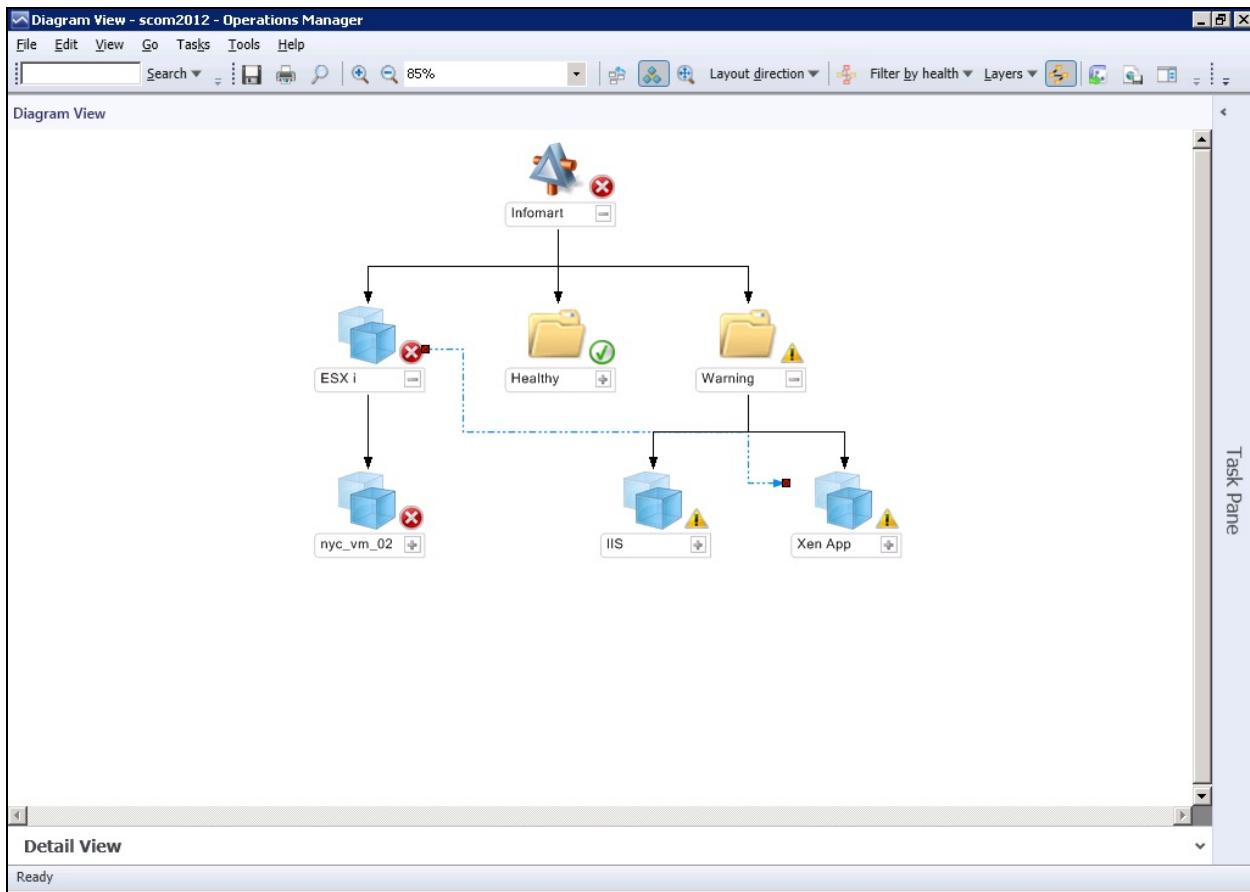

Figure 4.42: End-to-end correlation using SCOM
17. Now, let us drill down the **Warning** node under **Infomart** in the topology map. This reveals that the **IIS** web server component and the **XenApp** server component in our example are currently in the **Warning** state, indicating that **Major** problems have been noticed in these two components. Also, the ‘dotted arrow’ in blue connecting the **ESXi** component and the **XenApp** component (see Figure 4.42) reveals that the XenApp server depends upon the ESXi server for its proper functioning; this implies that the **Critical** issue with the **ESXi** component impacted the performance of the XenApp server that was running on one of the VMs of the ESXi server, thus creating a **Major** problem with the XenApp server. This is how SCOM indicates cause-effect equations and helps you isolate the source of issues with your distributed applications –i.e., business services.